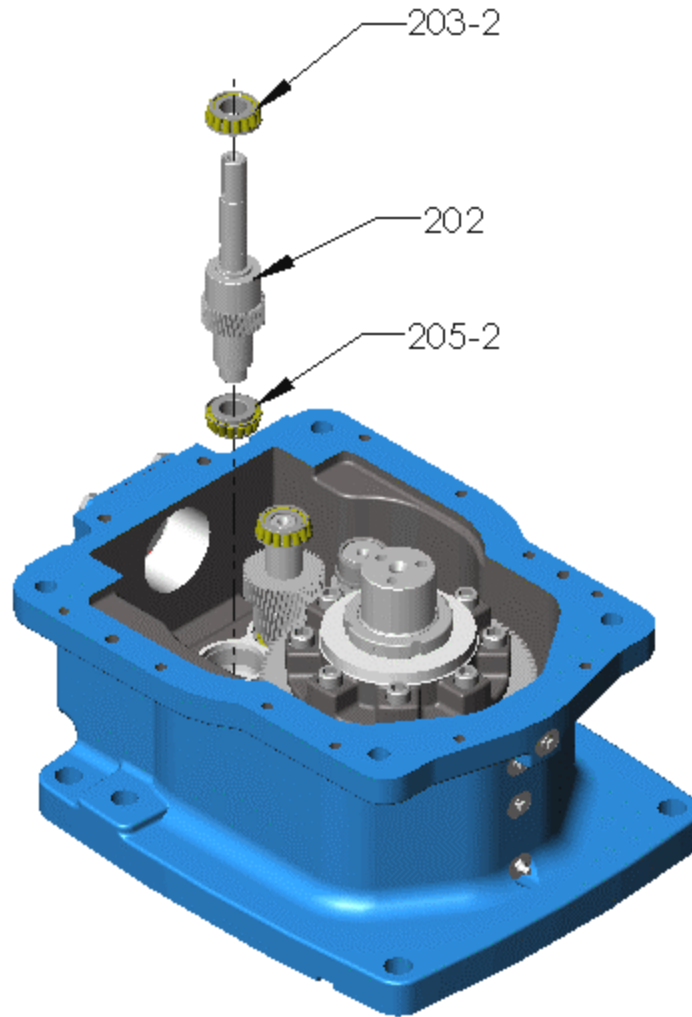

Figure 20 – Input Shaft
- N. Input shaft assembly (refer Figure 20):
- O. Install input shaft [202] assembly in the bearing cup [205-1] in the case bottom (refer Figure 20).